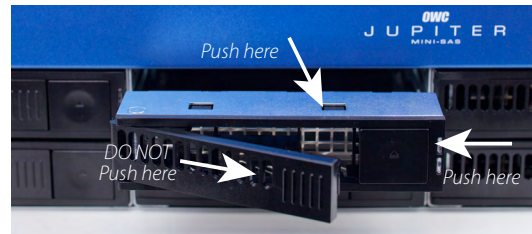

Figure 2.3.1a
3. Push the drive in using the front frame of the tray or the release button as seen in **Figure 2.3.1a** until it is seated into the backplane connector. **DO NOT** push the drive in using the handle.